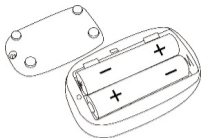

Figure 3 Batteries installation
Step 1. Refer to Figure 3. and insert the two AAA size batteries properly in the right direction.